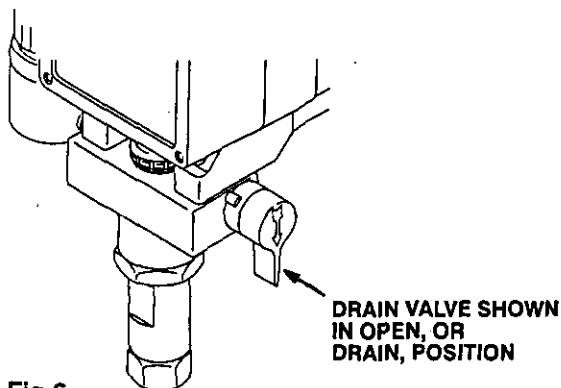

Fig 6
1. Open the pressure drain valve. See Fig 6.